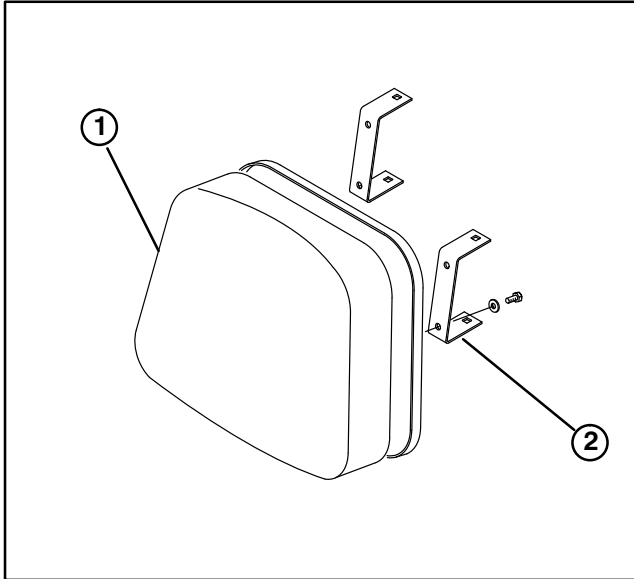

Figure 5
INSTALL SEAT BACK CUSHIONS AND MANUAL TUBE (Fig. 5 – 6)
1. Mount (2) seat back brackets to each seat back cushion with (4) 1/4–20 x 3/4" lg. capscrews and 1/4" flat washers. Position brackets on seat back cushions as shown in figure 5.